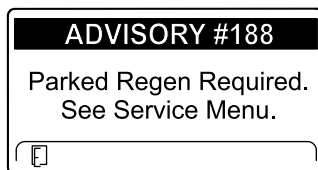

Figure 49
- Parked regeneration required ADVISORY #188 (Figure 49)